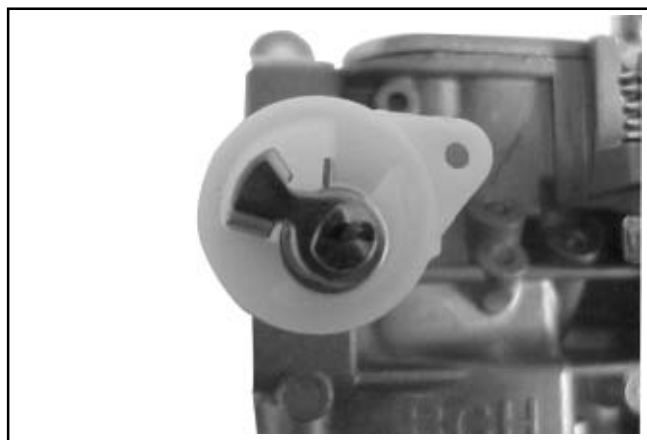

Figure 5-32. Choke Details.
4. Note the position of the spring legs and the choke plate for correct reassembly later. See Figure 5-32. Remove the two screws attaching the choke plate to the choke shaft. Pull the shaft out of the carburetor body and discard the removed parts.